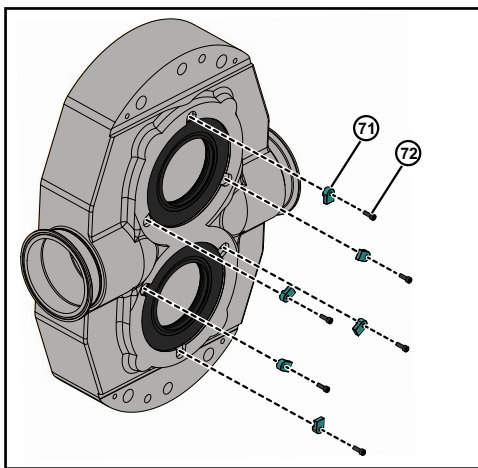

Figure 119 - Install Screws and Retainer-tab
6. Install all the retainer-tab (71) and retainer bolts (72) onto the pump body, as shown in Figure 119.